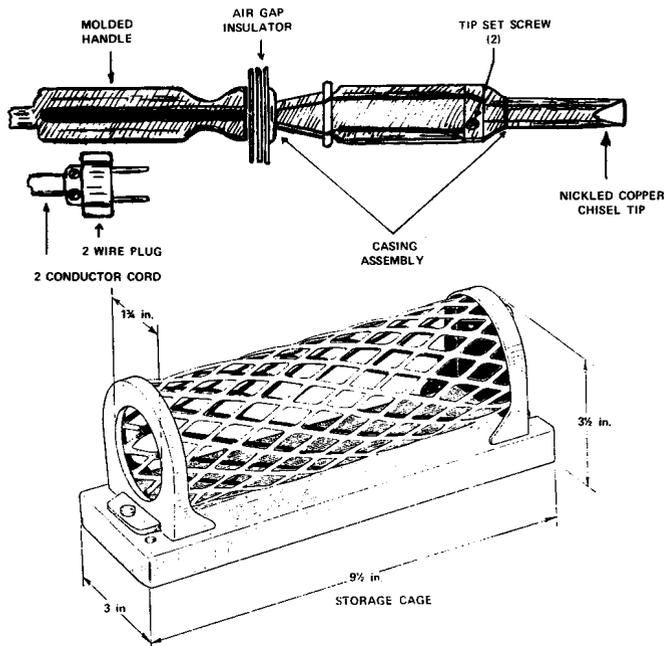

Figure 1.
2.01 As shown in Figure 1, the electric soldering irons covered in this practice consist of a molded handle, 2-conductor cord and plug, a 100, 200, or 300 watt heat element within the casing assembly, an air gap insulator safety shield, a replaceable nickled copper tip and two set screws.
- 4.07 When not in use, the soldering iron shall be stored in its associated cage (Figure 1) with the cord wrapped around and firmly secured to the handle.
- 5.01 During a work operation, the hot iron shall always be placed in the cage (Figure 1) when not in use, and the complete unit kept clear of any combustible material.